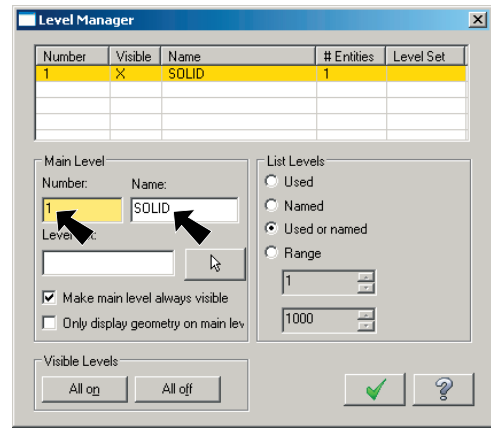

Fig. 11
- Step 2. Press **Tab** key to move to the Name Field and key-in **SOLID**, Fig. 11.